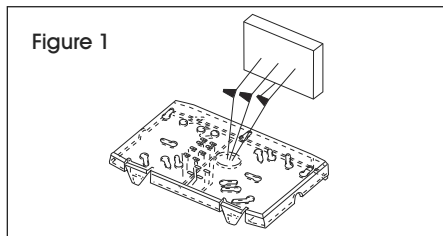

Figure 1
3. Connect to AC power. (See Figure 1)